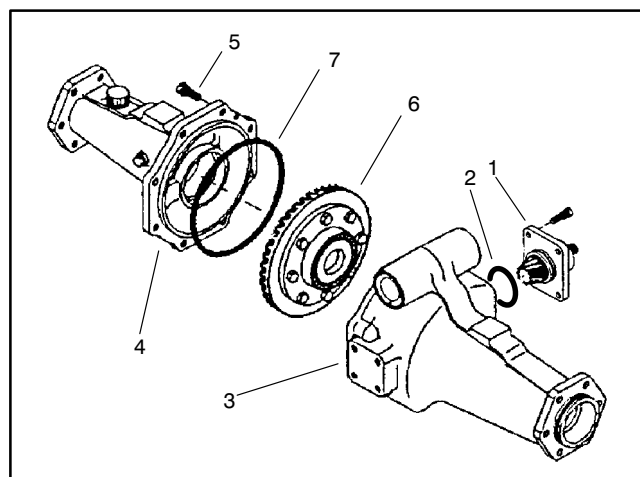

Figure 20
3. Remove input shaft/pinion gear assembly, shims, and O-ring from the axle support (Fig. 20).